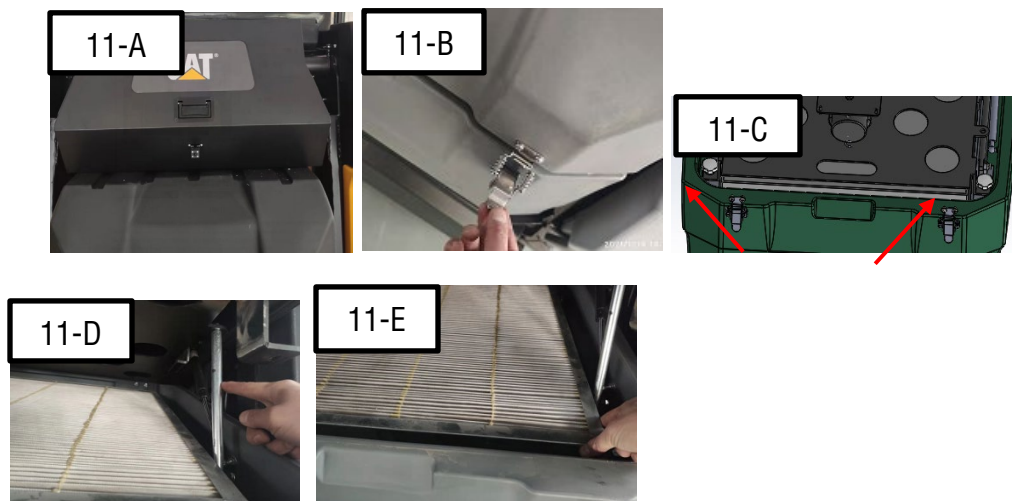

Fig. 11
3. Lift the rear cover plate (Fig. 11-A), open the buckle of the dust box (Fig. 11-B), open the dust box, unscrew the knobs (2) on the fixing seat of the dust shaking motor (Fig. 11-C), lift the dust motor fixing seat, support it with a brace (Fig. 11-D), and take out the filter hepa (Fig. 11-E).